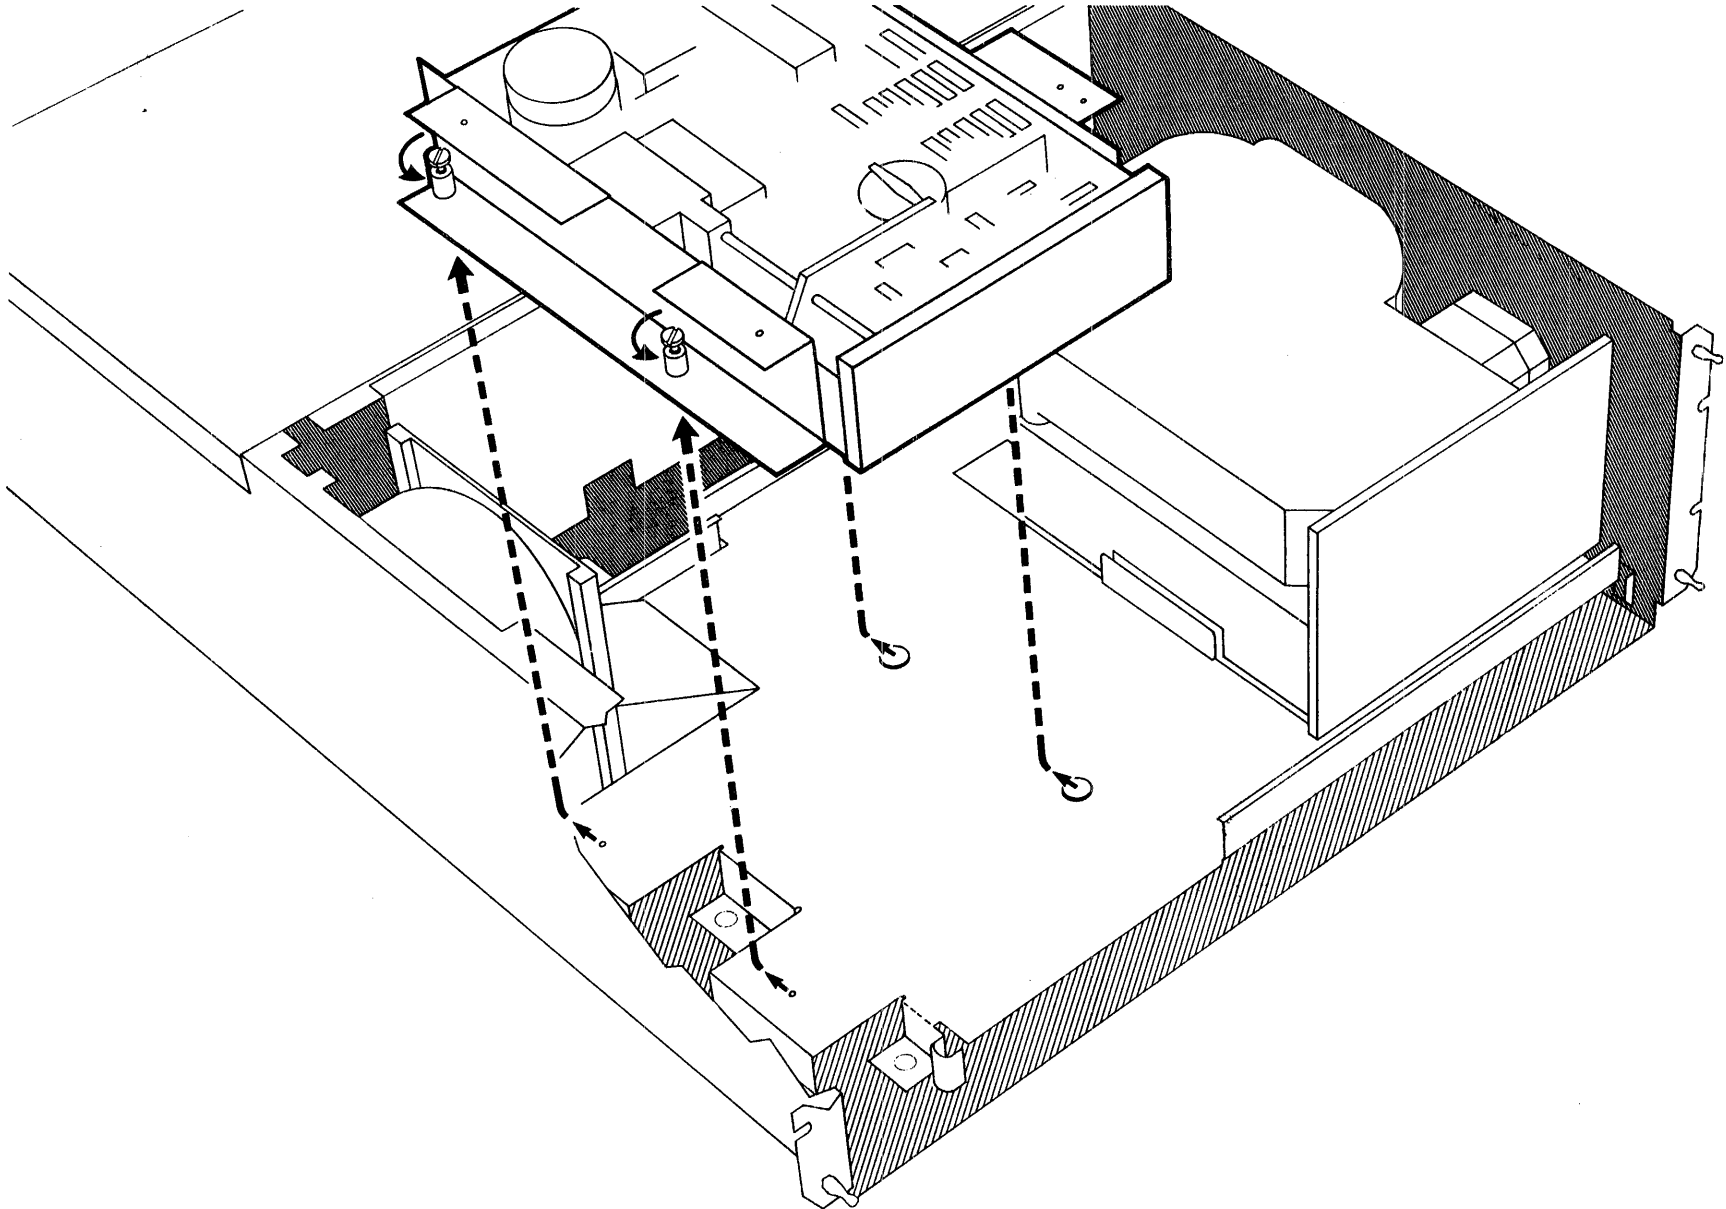

Fig. 10-9 Removal of single 5-1/4-inch floppy
11. SINGLE 5-1/4-INCH FLOPPY DRIVE. Disconnect the drive's four-wire power connector from the backplane and its signal cable from the foundation module. Unfasten the two captive screws holding the left side of the drive to the case. Now push the drive toward the rear of the case and lift up. The drive is now removed. See Figure 10-9.